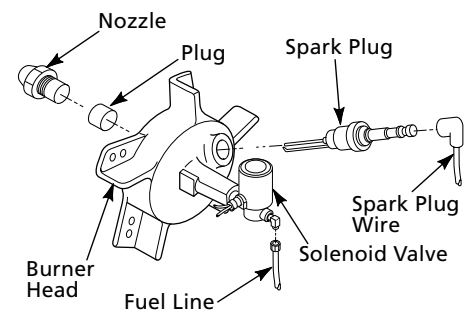

Figure 19 - Replacing Nozzle
7. Carefully remove nozzle from burner head using 5/8" socket wrench (See Figure 19).